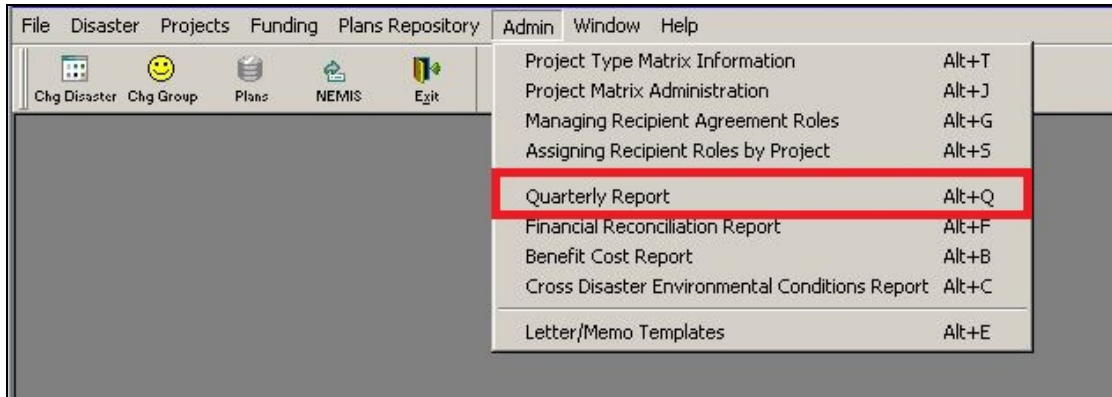

Figure 11-42: Mitigation > Admin > Quarterly Report
1. On the MITIGATION menu, click on Admin > Quarterly Report (Figure 11-42).